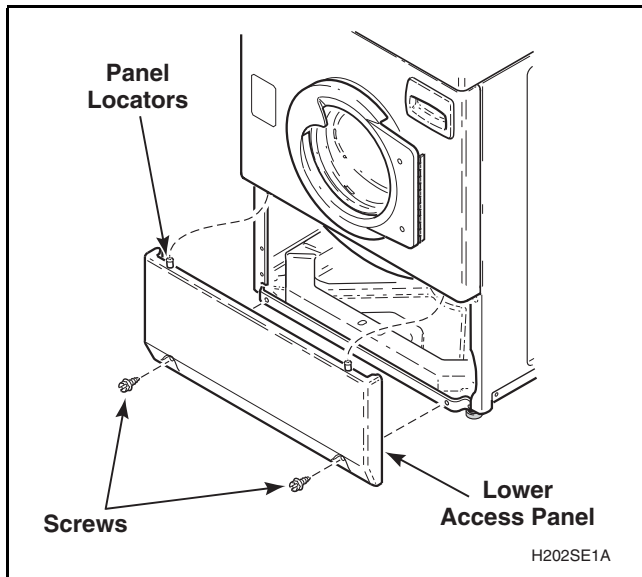

Figure 24
- While supporting lower access panel, remove two screws from bottom edge of panel and remove panel. Refer to *Figure 24*.